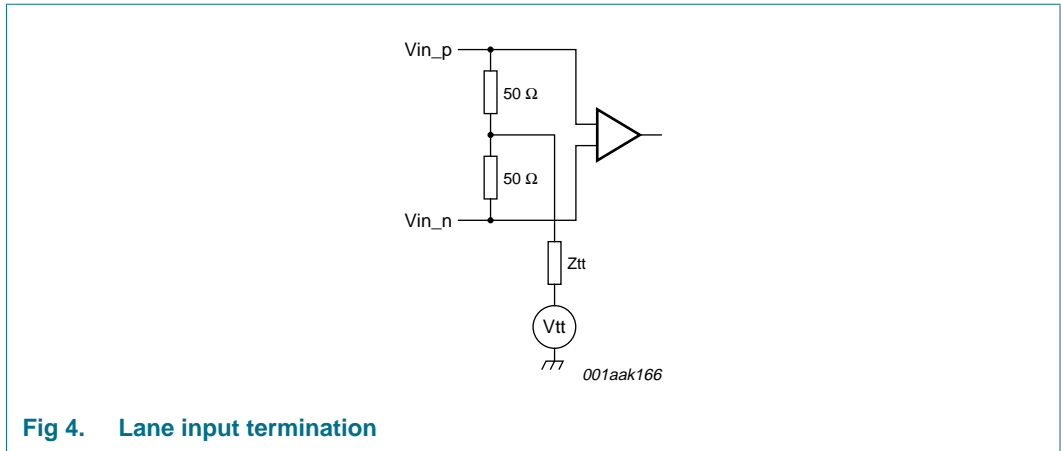

Fig 4. Lane input termination
- [7] Vin\_p and Vin\_n inputs are differential CML inputs. There are terminated internally to Vtt via 50  $\Omega$  (see Figure 4).